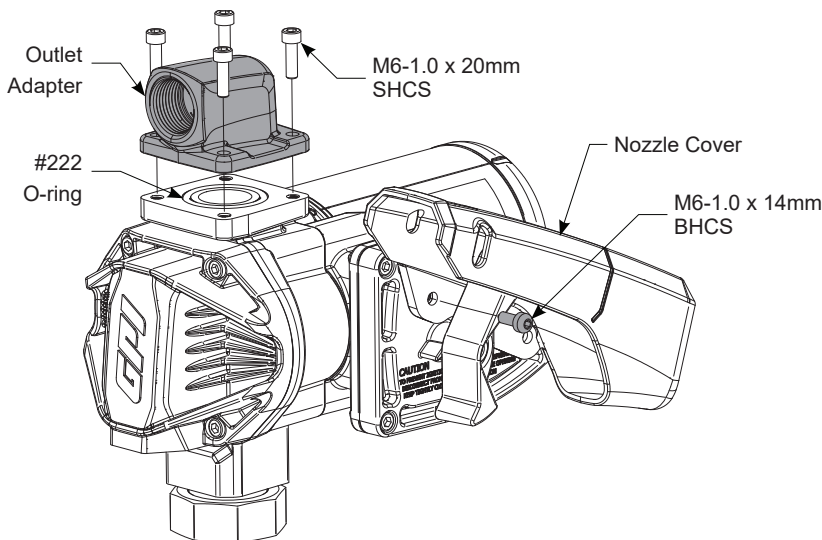

Figure 5
Using a 4mm Hex wrench, install nozzle cover using (1) M6-1.0 x 14mm BHCS in lower hole (see Figure 5).
3. Using a 5mm Hex wrench, install the (4) M6-1.0 x 20mm SHCS into the 1 in. NPT outlet adapter in desired direction on outlet port (see Figure 5).